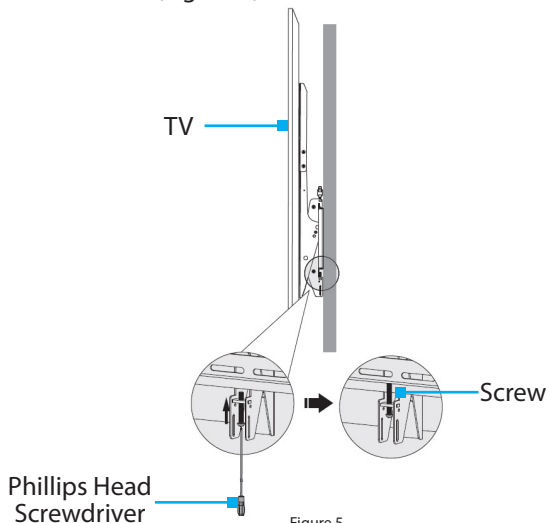

Figure 5
1. Loosen the 2 **Screws**, located at the bottom of the **Display Mounting Bracket Assemblies**, with the **Phillips Head Screwdriver**. (Figure 5)